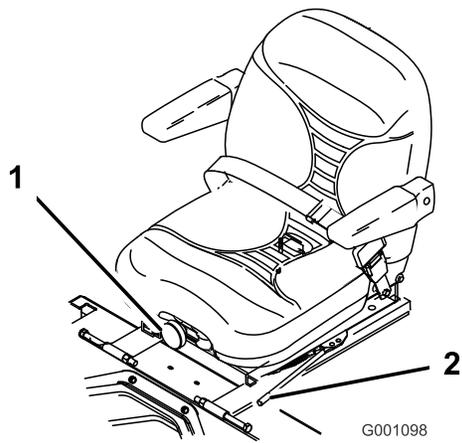

Figure 26
1. To adjust, move the lever sideways to unlock seat (Figure 26).
To adjust, turn the knob in front either direction to provide the best comfort (Figure 26).